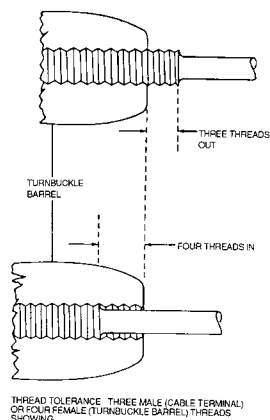

Figure 2-73. Turnbuckle Thread Limits
- a. **Turnbuckle Installation.** When installing cable system turnbuckles, screw both threaded terminals an equal distance into barrel. All terminals must be screwed into the barrel far enough that no more than three terminal threads or four barrel threads are exposed on initial installation of a cable assembly. These limits are shown in figure 2-73. The maximum of four exposed barrel threads applies only to the initial installation of the cable so that if the cable stretches, the turnbuckle can be adjusted to the desired cable tension, at which time more or less than four barrel threads may be exposed. AN series turnbuckles are lockwired as follows:
- (1) Adjust turnbuckle to its locking position.
- (2) Pass two locking wires through the center of the turnbuckle barrel.
- (3) Bend the ends of the wires 90 degrees toward the ends of the turnbuckle barrel.
- (4) Pass the wire ends through the hole in the turnbuckle eyes between the jaws of the turnbuckle fork.
- (5) Bend the wires back toward the center of the turnbuckle and wrap four times around the shank.
- (6) When a swaged terminal is being lockwired, one wire is passed through the hole provided for in the terminal, looped over the free end of the other wire and both ends wrapped four times around the shank.
- (7) MS series turnbuckles are locked with MS21256 locking clip MS21251 turnbuckle bodies are slotted internally to accept the MS21256 locking clip.